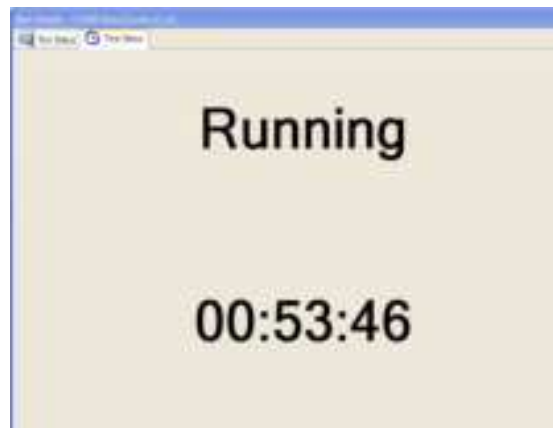

Figure 101. Count-down timer for the protocol.
4. Select the **Time Status** tab to see a full-screen count-down timer for the protocol (Figure 101).